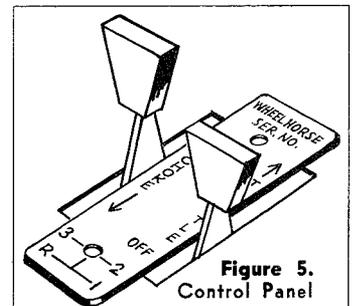

Figure 5.
1. Before starting my engine, open the valve on the sediment bowl (See Fig. 2). Now put gear shift lever (See Fig. 4) in the neutral position. Simply check the handy gear position diagram on recessed control panel (See Fig. 5).
2. Push throttle lever  $\frac{1}{2}$  way forward (See Fig. 5).
3. Pull choke lever (See Fig. 5) to choke position . . . if engine is cold. A warm engine requires no choking.